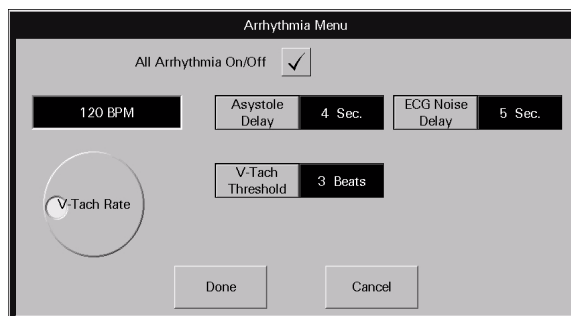

FIGURE 9-41 Arrhythmia Menu Dialog Box (Passport and Spectrum devices only)
1. Select the All Arrhythmia On/Off check box button in the Arrhythmia Menu dialog box (shown in FIGURE 9-41) to enable or disable arrhythmia analysis for a Telepack device.